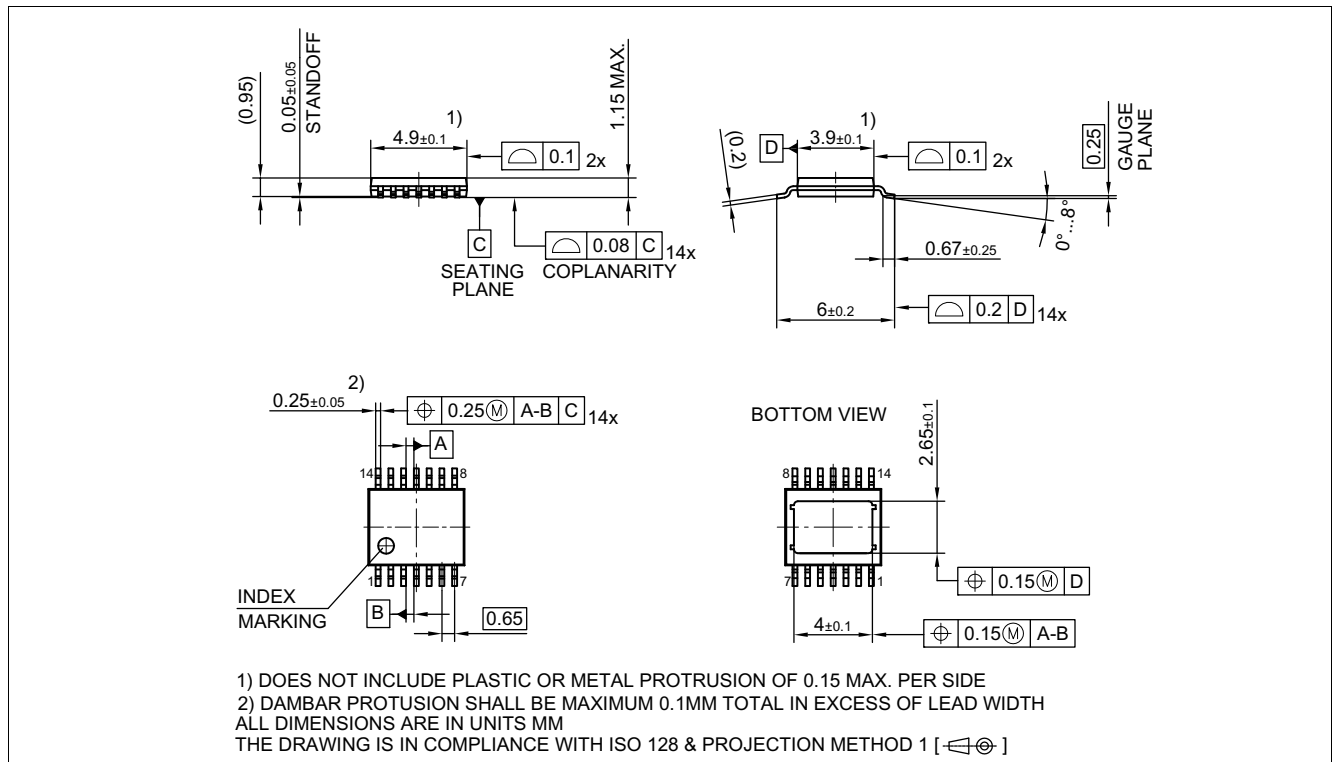
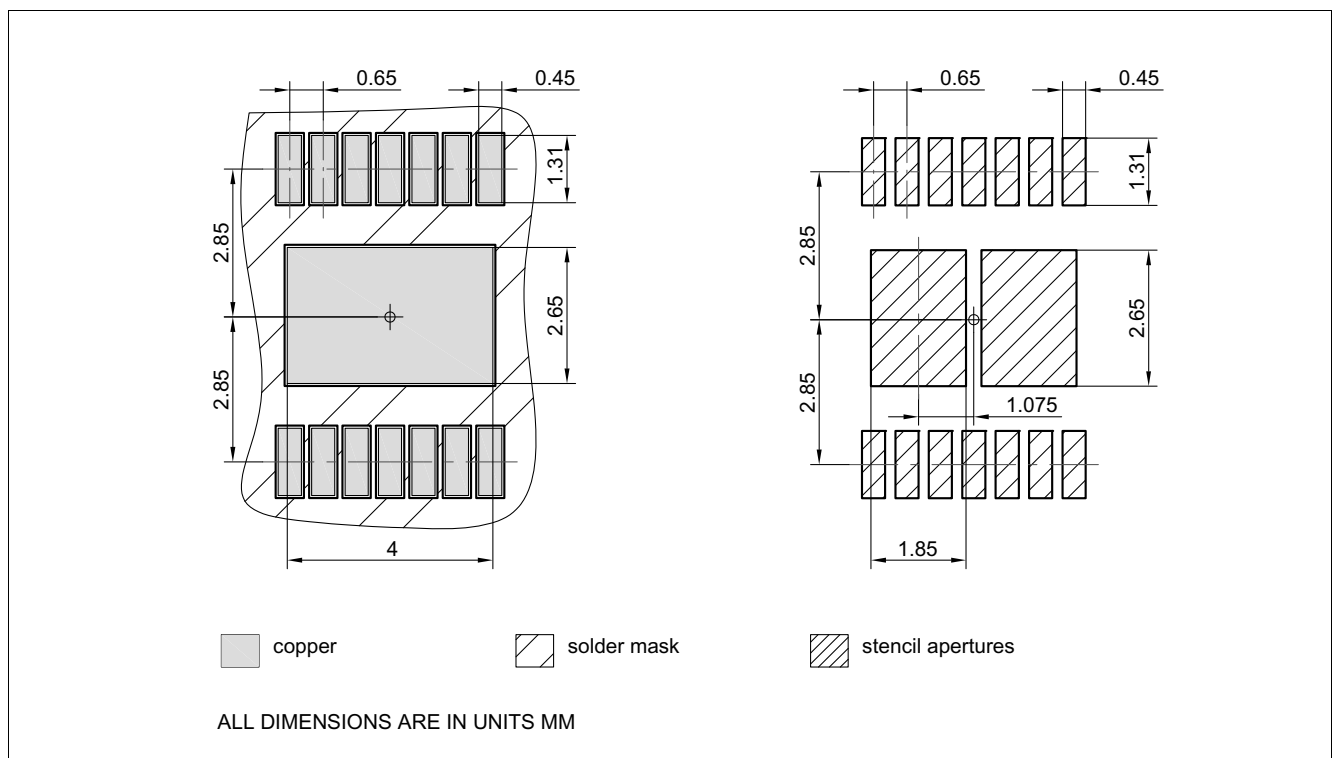

Figure 44 PG-TSDSO-14 (Thin (Slim) Dual Small Outline 14 pins) Package Outline
Figure 45 PG-TSDSO-14 (Thin (Slim) Dual Small Outline 14 pins) Package pads and stencil
1.13, 2019-06-26	Chapter 9.2 updated (2 V → $V_{DS(OLOFF)}$) Chapter 8.2 updated General: updated (ReverSave™ → ReverseON) Chapter 1 updated ((inserted headline "Product Validation"), (Qualified in accordance with AEC Q100 grade 1 → Qualified for automotive applications. Product validation according to AEC-Q100 Grade 1.)) General: updated Product Name (PROFET™+2 → PROFET™+2 12V) Page 1: updated figure product Table 24 updated punctuation Chapter 9.3.1 updated (typo) Page 1: updated (Package PG-TSDSO-14-22 → Package PG-TSDSO-14) Figure 29 updated Figure 44 updated (PG-TSDSO-14-22 (Thin (Slim) Dual Small Outline 14 pins) Package Outline → PG-TSDSO-14 (Thin (Slim) Dual Small Outline 14 pins) Package Outline) Figure 45 updated (PG-TSDSO-14-22 (Thin (Slim) Dual Small Outline 14 pins) Package pads and stencil → PG-TSDSO-14 (Thin (Slim) Dual Small Outline 14 pins) Package pads and stencil) Table 1 updated ((Symbol: $I_{VS(SLEEP)}$ → $I_{VS(SLEEP)_{85}}$), (Parameter: Minimum Overvoltage protection ($T_J = 25\text{ °C}$) → Minimum Overvoltage protection ($T_J \geq 25\text{ °C}$)) P_9.6.0.6 updated (Note or Test Condition: removed unnecessary line-break)
Rev. 1.10, 2017-10-24	P_7.5.1.6 updated (test condition: $R_{\text{SENSE}} = 1.2 \text{ k}\Omega$ added) P_7.5.1.7 updated (max: 22 $\rightarrow$ 33 mΩ) P_7.5.1.7 updated (test condition: $R_{\text{SENSE}} = 1.2 \text{ k}\Omega$ added) Figure 16 updated ($dV_{\text{ON}}/dt \rightarrow (dV/dt)_{\text{ON}}$, $(dV_{\text{OFF}}/dt \rightarrow -(dV/dt)_{\text{OFF}})$) Chapter 7.3.3 updated P_8.6.0.1 updated (max: 220 $\rightarrow$ 200 $^{\circ}\text{C}$) P_8.6.0.8 updated typo ("Overcurrent" $\rightarrow$ "Overcurrent") P_9.6.0.1 removed P_9.6.0.13, P_9.6.0.14 added P_9.6.0.6 updated ($I_L \leq 2 * I_{L(\text{NOM})} \rightarrow I_L \leq 1.2 * I_{L(\text{NOM})}$) P_9.6.0.6 updated ($V_{\text{IS(RANGE)}} \rightarrow V_{\text{SIS}}$) P_9.6.0.7, P_9.6.0.8 updated ($V_{\text{IS(RANGE)}} \rightarrow V_{\text{SIS}}$) P_9.6.0.7, P_9.6.0.8 updated ($V_{\text{IS(RANGE)}} \rightarrow V_{\text{SIS}}$) P_9.6.0.9 updated (symbol: $V_{\text{IS(CLAMP)}_{-40}} \rightarrow V_{\text{SIS(CLAMP)}_{-40}}$) P_9.6.1.14 updated (min: 50 $\rightarrow$ - μs, test condition: "DEN = "high" from Load Change to $I_{\text{IS}} = I_L / (k_{\text{ILIS,MIN}} @ I_L) * 1.1$ from $I_L = I_{L(\text{CAL})}$ to $I_L = I_{L(\text{CAL_OL})}$" $\rightarrow$ "DEN = "high" from Load Change to $I_{\text{IS}} = I_L / (k_{\text{ILIS}} @ I_L)$ from $I_{L(\text{CAL})}$ to $I_{L(\text{CAL_OL})}$") P_9.6.0.10 updated (symbol and name: $V_{\text{IS(CLAMP)}_{25}} \rightarrow V_{\text{SIS(CLAMP)}_{25}}$ and $T_J = 25^{\circ}\text{C} \rightarrow T_J \geq 25^{\circ}\text{C}$) Table 24 updated (R_{DSEL} included) Figure 44 updated Figure 45 updated